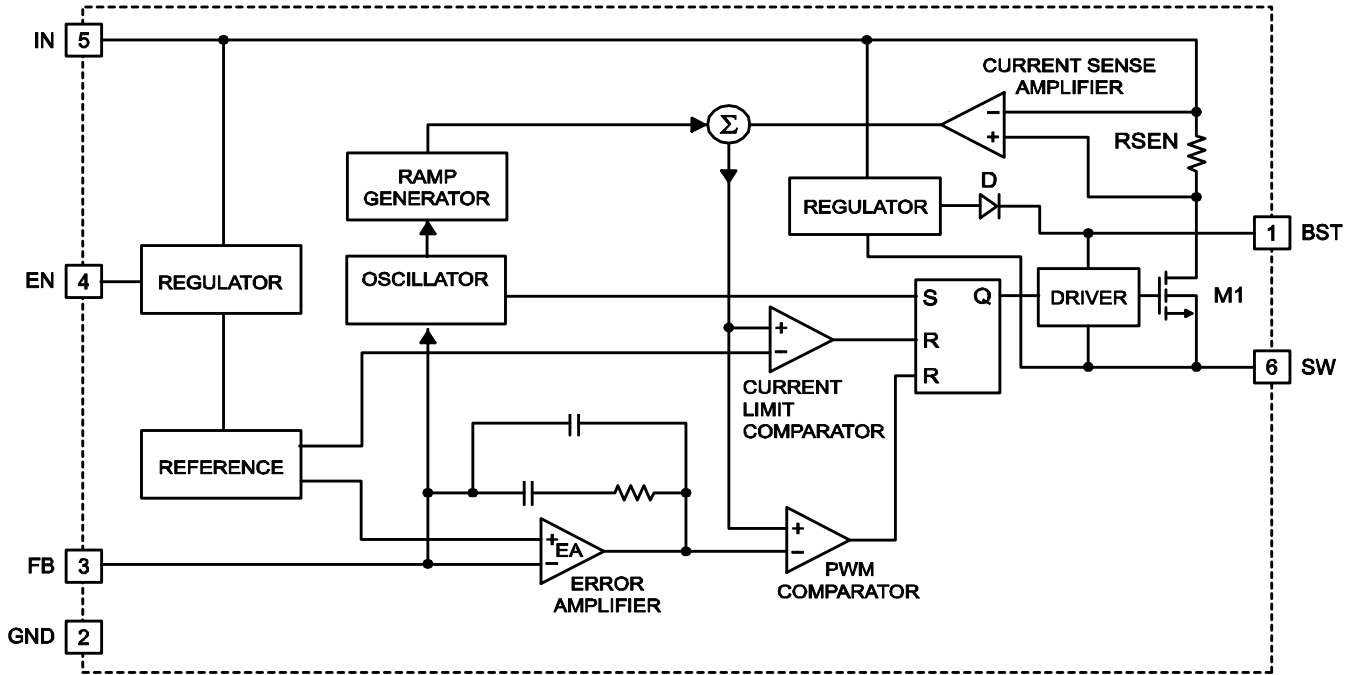

Figure 1: Functional Block Diagram
The external resistor divider sets the output voltage (see the Typical Application schematic). Table 1 lists resistors for common output voltages. The feedback resistor (R2) sets the feedback loop bandwidth with the internal compensation capacitor (see Figure 1). R1 can be calculated with Equation (1):